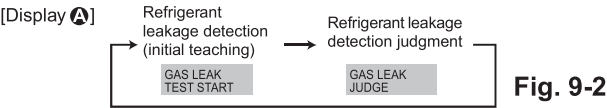

Fig. 9-2
- ② Press **CLOCK** button and select the [GAS LEAK TEST START] (Fig. 9-2)